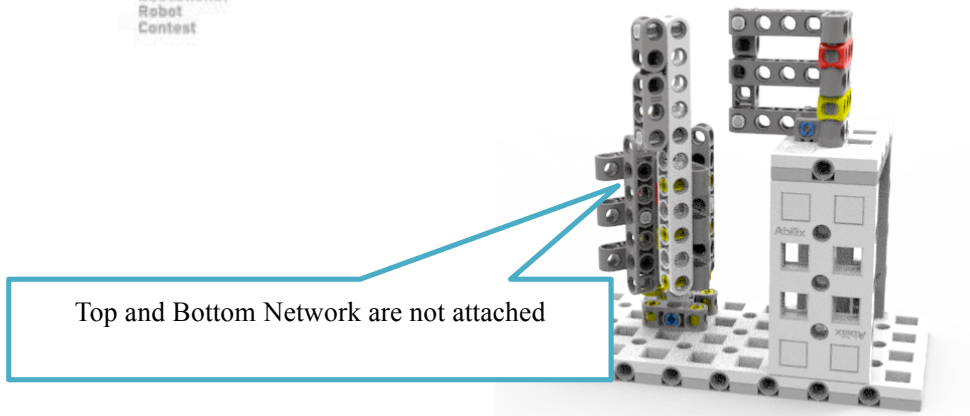

Figure 3-1-3 Network Upgrading Unfinished Status
3.1.3 If Top and Bottom Network are not attached, there won't be any points, as shown in Figure 3-1-3.